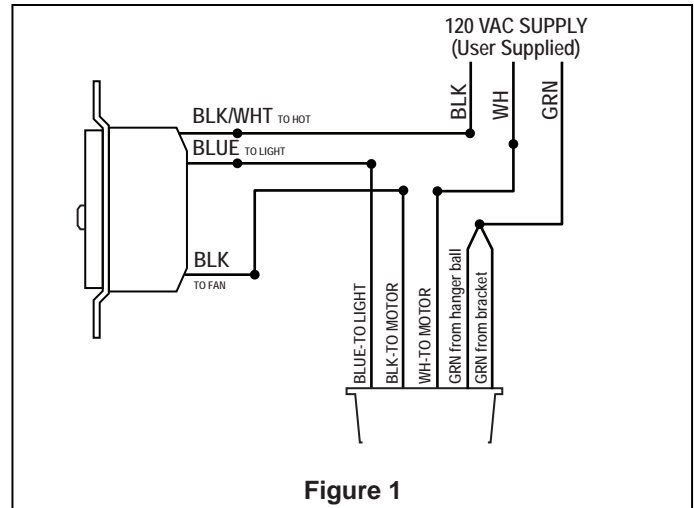

Figure 1
1. Remove and discard the (rubber) motor “stops” by removing the four screws. (Figure 1)